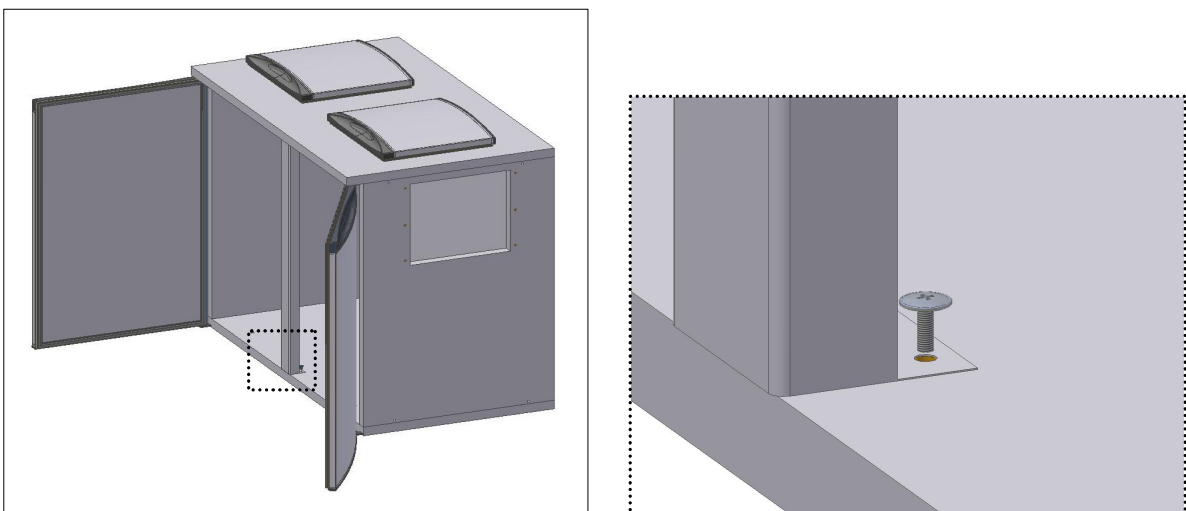

Fig. 10
- Fix the **pillar** to the panel of the top and bottom (Fig.10);